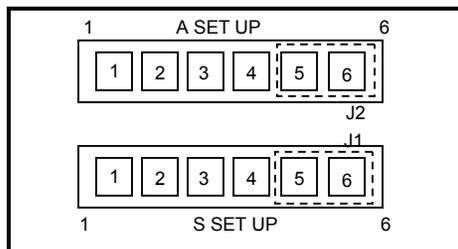

Figure 21
11. Position the jumpers on pins **5** and **6** of the **J1 (S SET UP)** and **J2 (A SET UP)** headers. (*Refer to figure 21*).